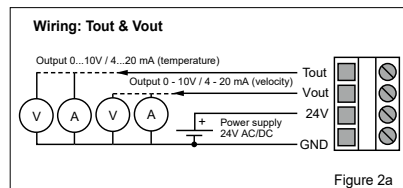

Figure 2a
- 2) Connect the wires as shown in Figures 2a and 2b.